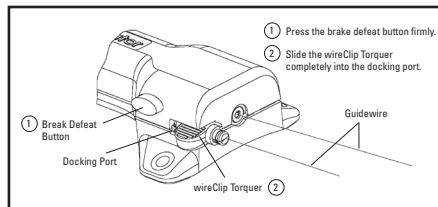

Figure 4. Brake Defeat Button and wireClip Docking Port
- The docking port may be used to maintain the brake in the defeated position. While depressing the brake defeat button, slide the wireClip Torquer/guidewire combination completely into the docking port (see Figure 4). The brake defeat button will remain depressed. **Do not use this feature during ablation.**